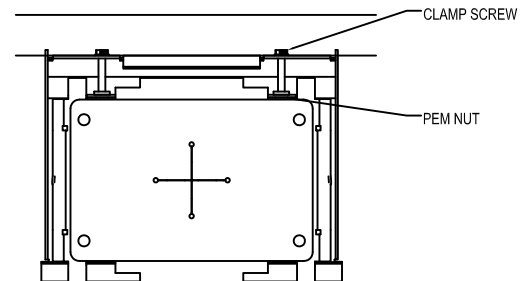

FIGURE 2
2. LOOSEN 2 CLAMP SCREWS ON BACK OF LUMINAIRE, SO THAT NO SCREW THREADS ARE SHOWING PAST PEM NUTS. SEE FIGURE 2. SET MOUNTING PLATE AND GASKET ASIDE. NOTE: DO NOT REMOVE SCREWS OR CLAMP!